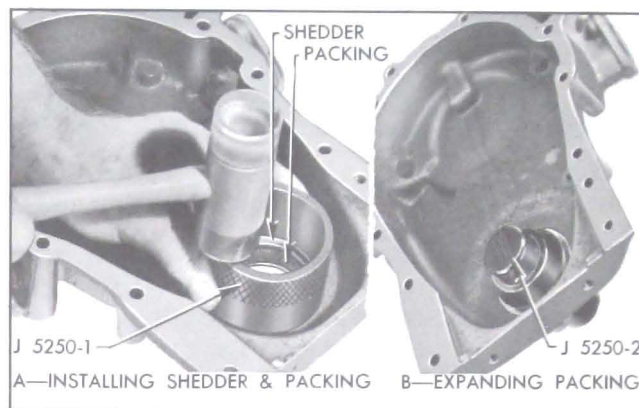

Figure 2-27—Installing Crankshaft Oil Seal
2. Work new packing into the shedder, then drive shedder into recess in timing chain cover, using Installer J-5250-1. See Figure 2-27, view A.
3. Push Packing Expander J-5250-2 through the seal to expand the packing into place and size the opening for the crankshaft. See Figure 2-27, view B. Apply a light coat of vaseline to the packing.